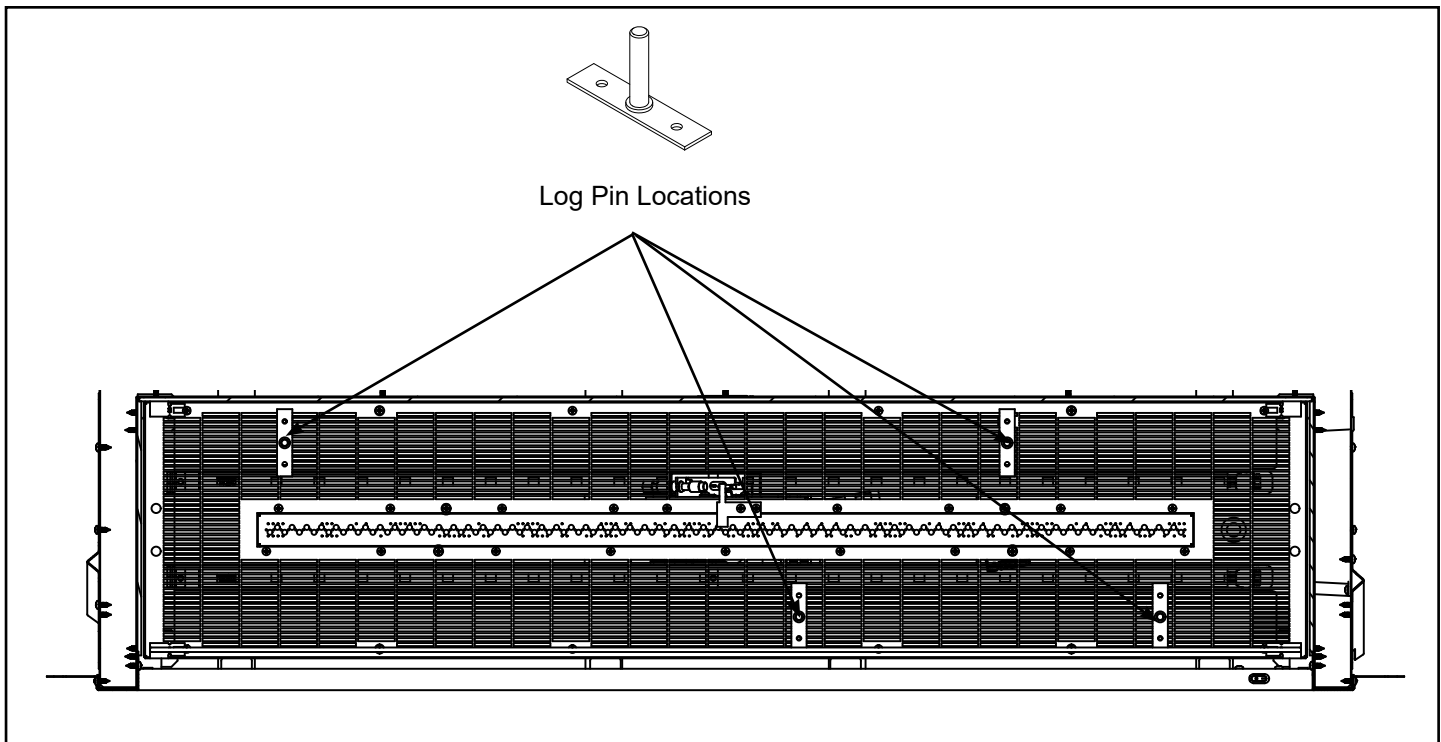

Figure 7.5— Log Pin Placement for AVFL42N(P)IF-BU, AVFL42N(P)IF-RB, AVFL48N(P)IF, AND AVFLST48N(P)IF
NOTE: Prior to installing the log set, you must first install the pin brackets on the burner. The air deflection glass and glass media should only be installed after the pin brackets are in place. The air deflection glass should be installed prior to placing glass media on the burner. The logs must then be placed in the unit after the glass media and air deflection glass. If the optional logs are added to the appliance after installation of deflective glass and glass media, move the glass media away from the pin location holes on the firebox bottom assembly as per Figure 7.5 or 7.7.
1. Mount the four log support pin brackets using mounting holes and screws provided in locations indicated in Figure 7.5 for the front and rear log. Only one hole of the pin bracket will be used to secure the pin to the outside of the burner assembly base. The other hole remains unused and rests on the mesh area. Next, arrange glass media evenly across the burner again.